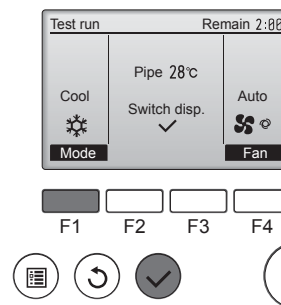

Fig. 7-6
- ① Press the [F1] button to go through the operation modes in the order of "Cool" and "Heat". (Fig. 7-6)